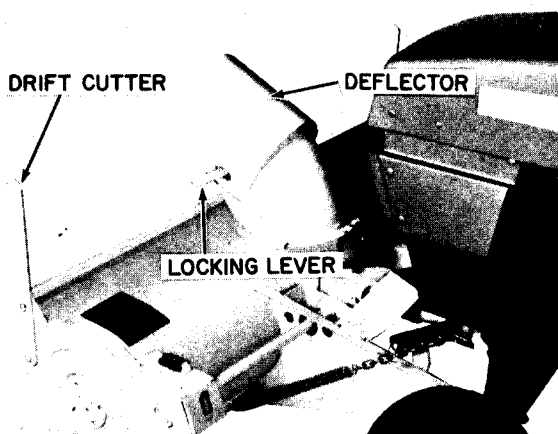

FIGURE 14
1. The deflector, Figure 14, has a slotted hole on each side for adjustment. To change the angle of the deflector, loosen the two locking levers. Tighten the
Grease discharge chute base shown in Figure 14 after each use.